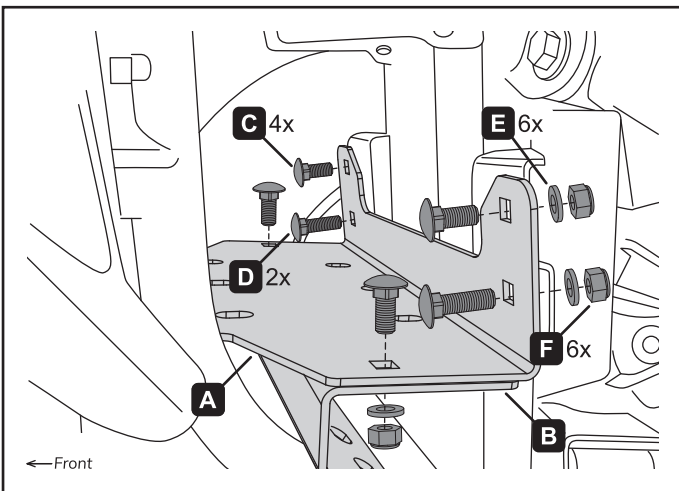

Figure 3.
3. Loosely install the winch mount (A) and support bracket (B) with bolts (C, D), washers (E), and nuts (F). See figure 3.